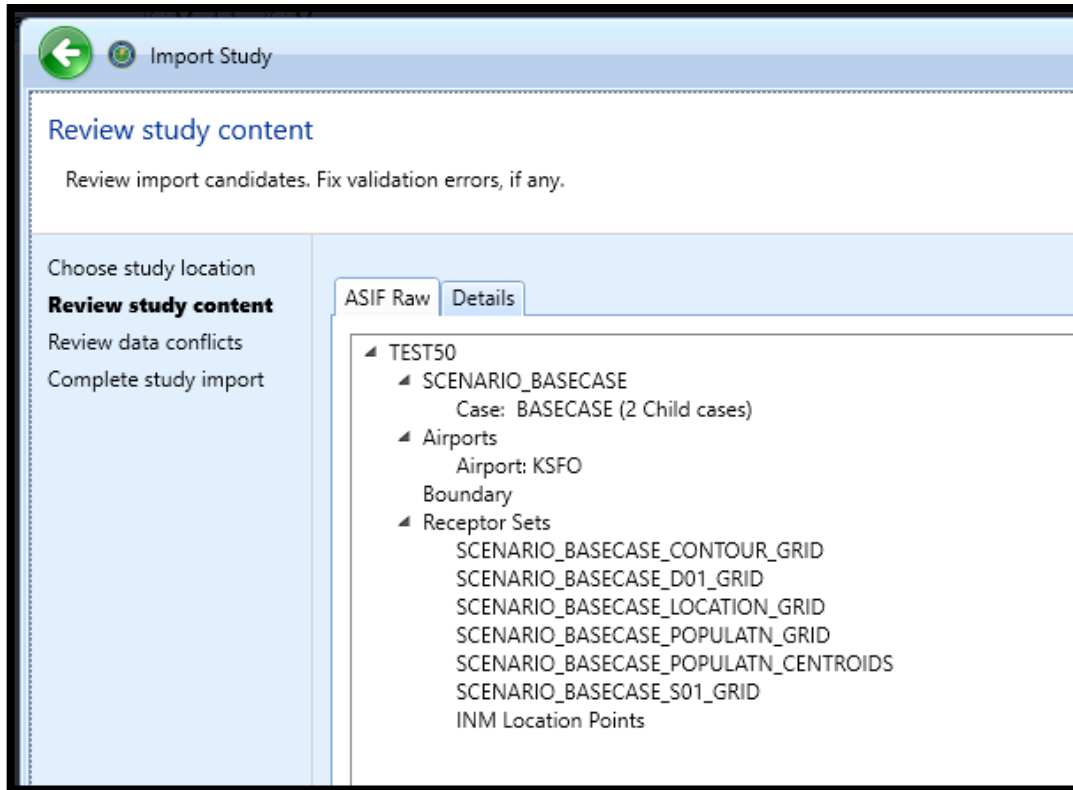

Figure 54- review study content - Asif raw
- If the message does not appear, the *ASIF Raw* tab will display a summary view of the study (Figure 54).